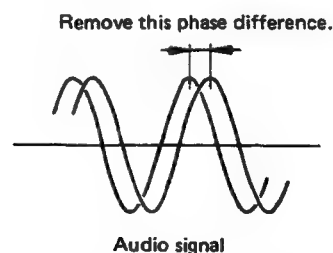
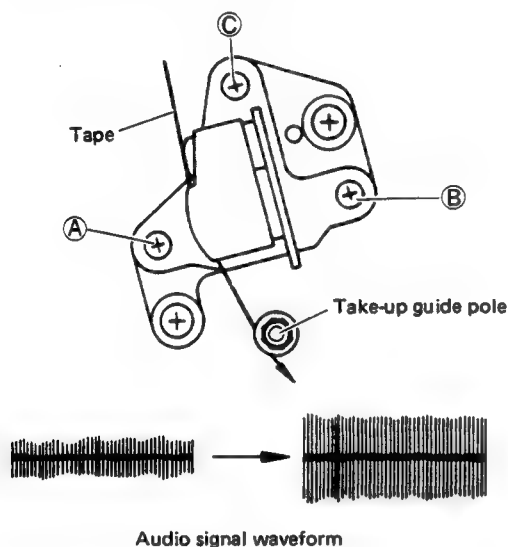

Fig. 2-32 Audio signal phase adjustment
Fig. 2-33 Audio/control head adjustment
3. While observing the output signals, turn screw © (Fig. 2-33) for maximum waveforms and absence of phase difference (Fig. 2-32).